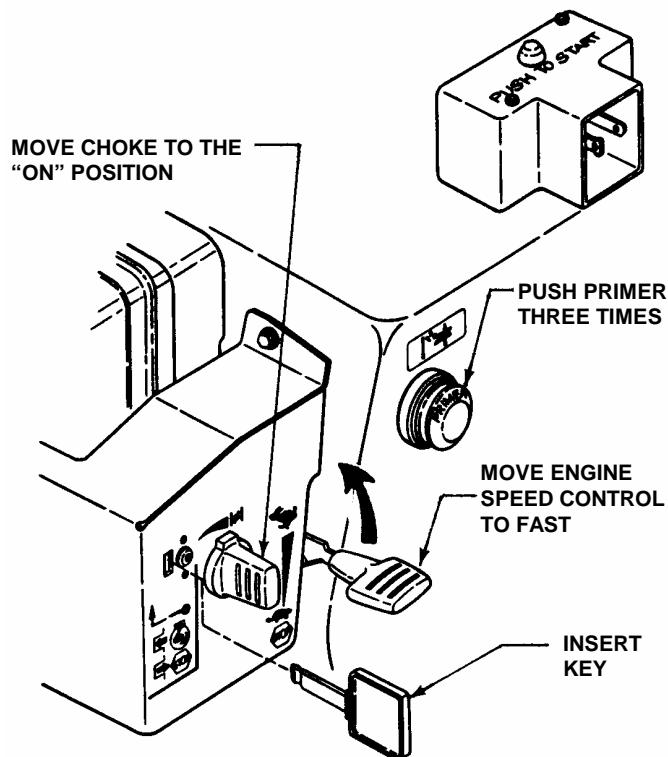

FIGURE 2.4
2. Insert key into ignition switch. See Figure 2.4.
3. Move choke control to the choke, "ON" position. See Figure 2.4.
4. Move engine speed control to the "FAST" position. See Figure 2.4.
5. Push primer three times to start a cold engine. **NOTE:** Do not use primer button to start warm engine. See Figure 2.4.